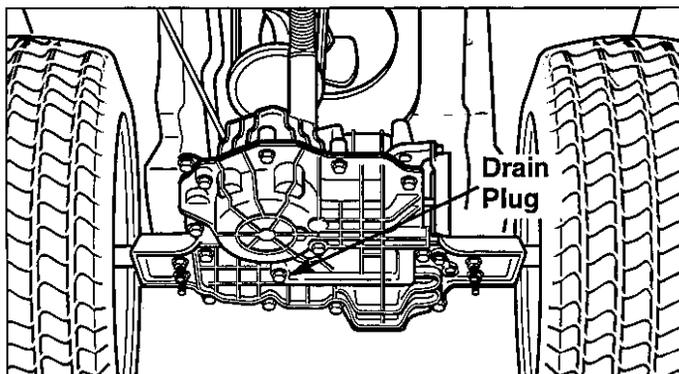

Figure 17. Transmission Drain Plugs
1. Drain hydrostatic system by removing drain plug (see Figure 17). Drain oil into a suitable container.